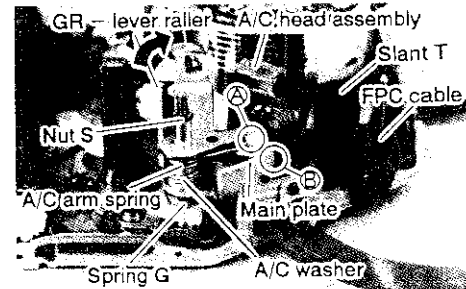

Fig. 3-9-2
- ③ Place the A/C arm spring and GR-lever to the A/C plate shaft. For mounting status of the A/C arm spring, see Fig. 3-9-2.
- ④ Attach the A/C head assembly to the shaft of the capstan motor stator. To do so, move the GR-lever roller in the direction of arrow in Fig. 3-9-2. Orient the assembly so that the GR-lever tip R ④ is inside the main plate and the A/C head phase adjuster screw B ⑤ of the A/C plate is outside the main plate.
- ⑤ Tighten the nut S (temporary).
- ⑥ Install the master plane (see para. 3).
- ⑦ Place the height adjusting square on the master plane.
- ⑧ Adjust nut S so that the centre of the distance between measuring faces A and B of the square is at the same level as the edge of the lower flange of GR-lever roller. This is a critical adjustment since the distance between the A and B faces is small.